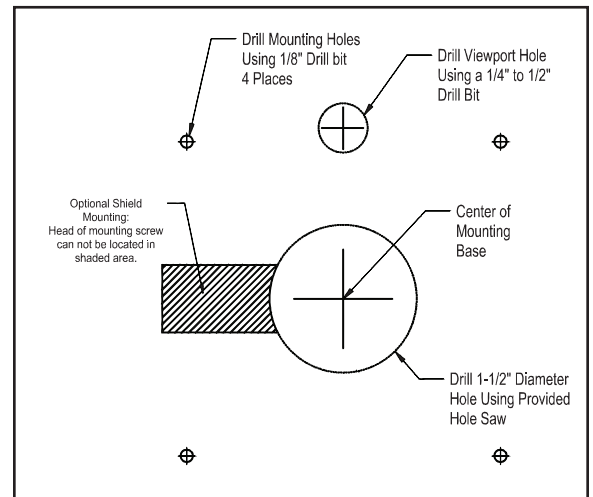

Figure 3
3. Drill  $\frac{1}{8}$ " diameter mounting holes at positions indicated on template. (See Figure 3)
4. Cut out the large opening (1- $\frac{1}{2}$ " hole) on the template. (See Figure 3)
5. Using a  $\frac{1}{4}$ " to  $\frac{1}{2}$ " drill bit, drill a viewport hole as indicated on the template. (Figure 3)
8. Attach the UV-Aire mounting base onto the plenum with the supplied sheet metal screws. (Refer to template as shown in Figure 3) This must be tight in order to activate the built-in safety switch.